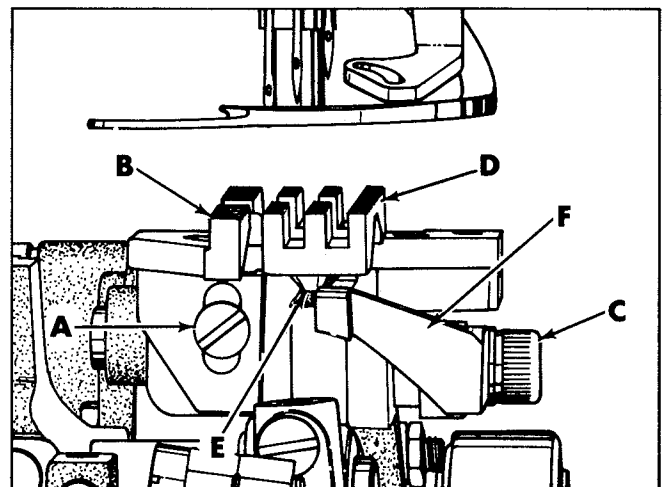

Fig. 9
Height adjustment can be made by loosening screws (A, Fig. 9) for differential feed dog (B) and (C) for main feed dog (D). Raise or lower as required and adjust screw (E) to support main feed dog (D) before tightening screw (C).